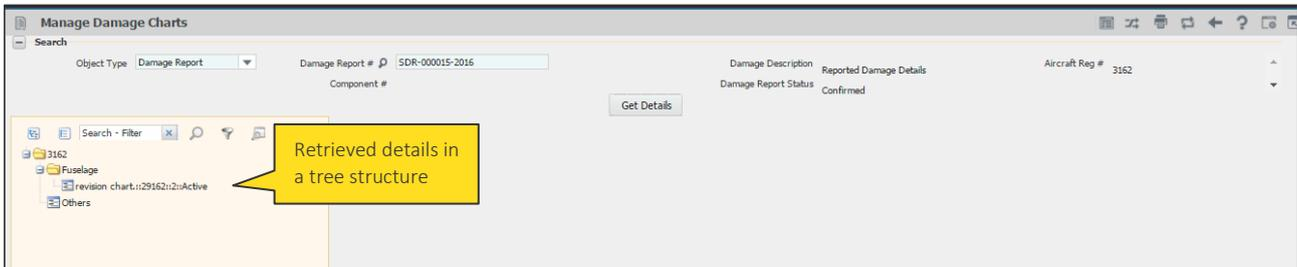

Figure 3.3 Managing damage charts
1. Select the **Manage Damage Charts** activity under the **Structural Damage Report** business component. The **Manage Damage Charts** page appears. See Figure 3.3.